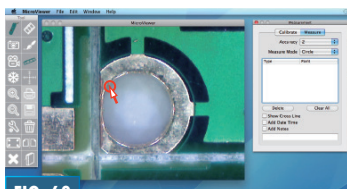

FIG. 68
3. Click and hold the button of the mouse at the edge of the object (Fig. 68).